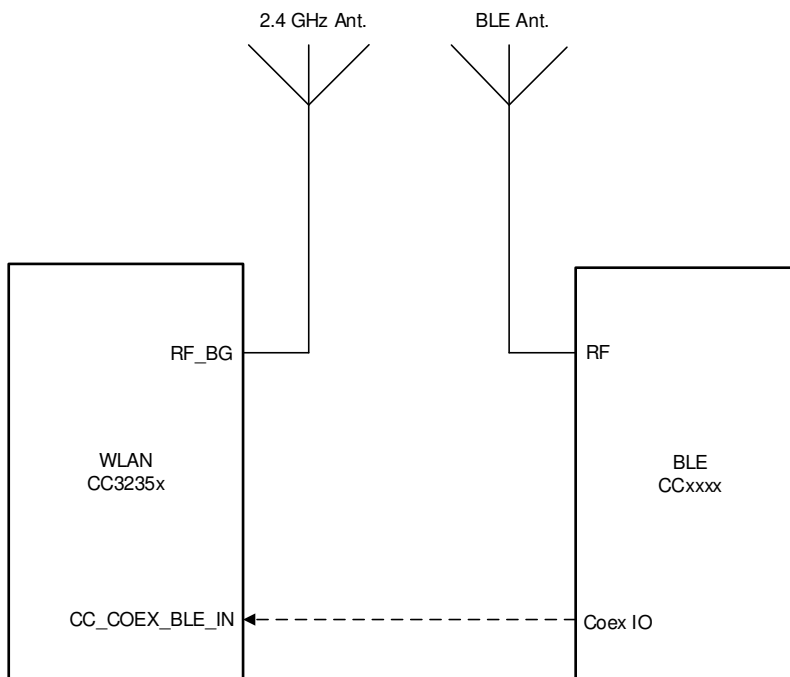

图 10-3. Dual-Antenna Coexistence Mode Block Diagram
- 2.4 GHz Wi-Fi Band (see 图 10-3)
图 10-3 shows the dual antenna implementation of a complete Bluetooth® low energy and WLAN coexistence network with the WLAN operating on either a 2.4- or a 5 GHz band. Note in this implementation no Coex switch is required and only a single GPIO from the BLE device to the CC3235x device is required.